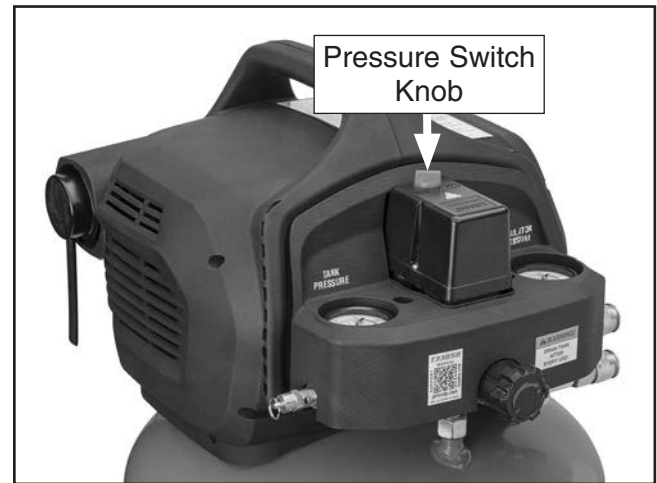

Figure 9. Location of pressure switch knob.
3. Move pressure switch knob to OFF position (see **Figure 9**).